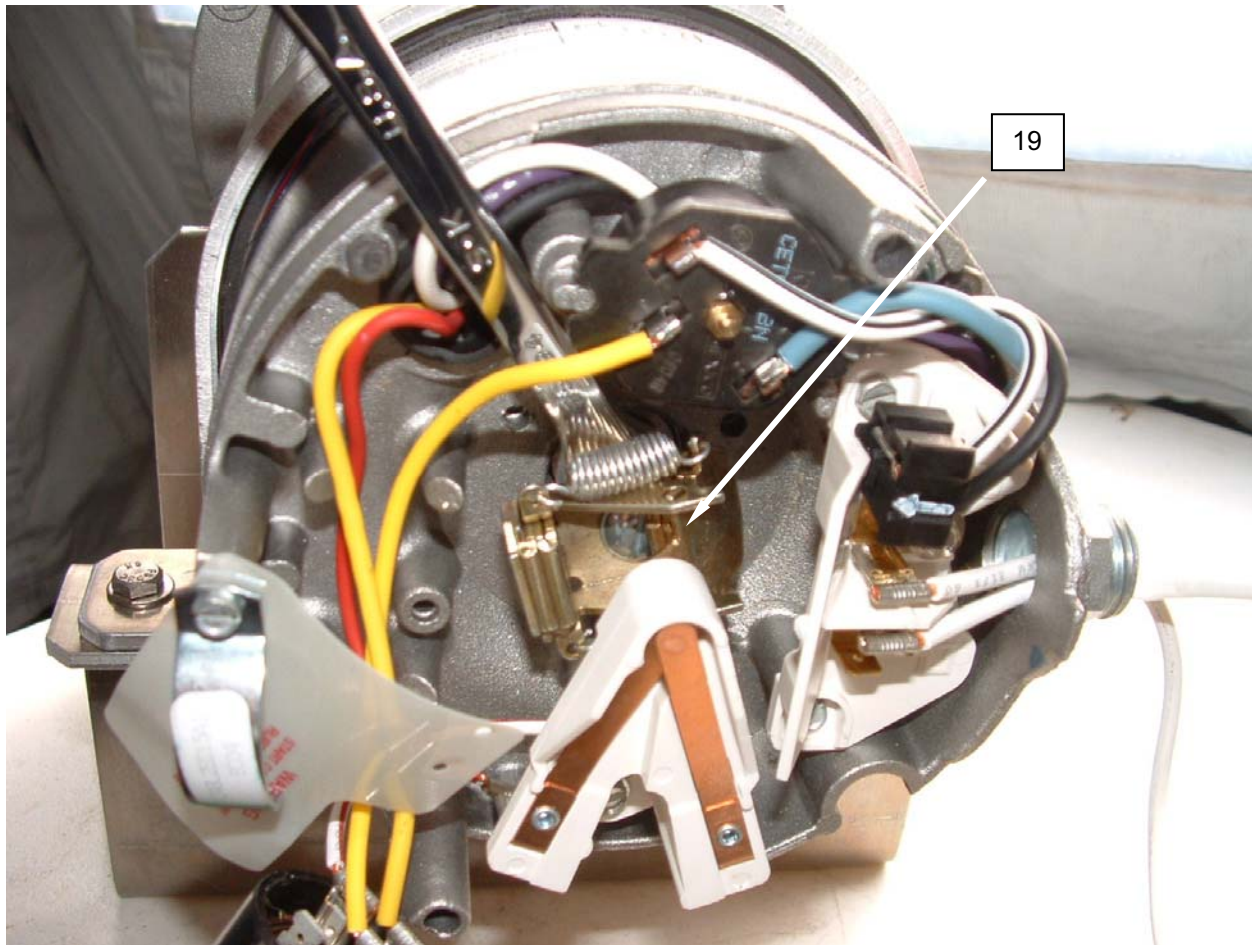

Figure 9. Replace the Pump Impellor.
10. Place a wrench on the flats of the shaft (**Figure 9, Item 19**).